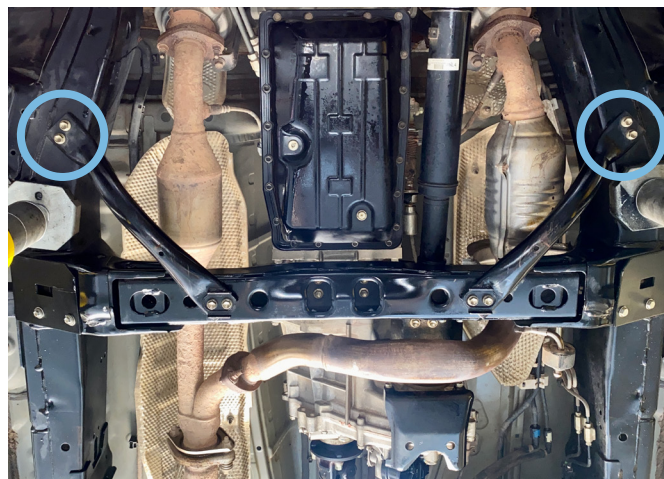

Fig.2
2. Loosen 4 bolts as shown in Fig.2.